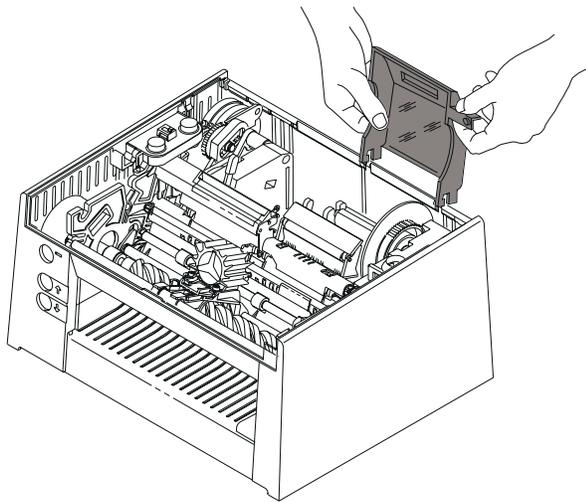

Figure 6-72. JNL Cover
- 1 Put the JNL cover on the hinge as shown. See Figure 6-72.